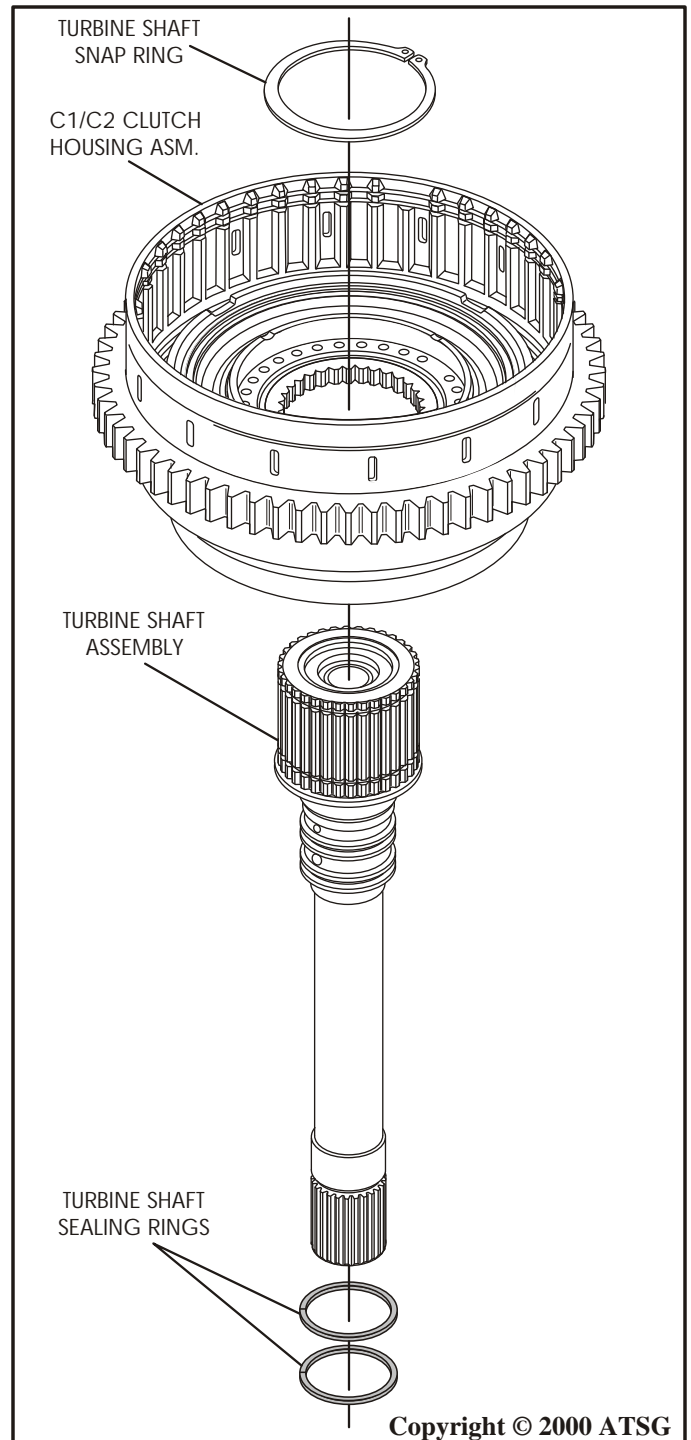

Figure 110
24. Install two new sealing rings onto turbine shaft as shown in Figure 110.
25. **Now** install the turbine shaft into the splines of the C1/C2 clutch housing and install the eyelet snap ring in bottom groove (See Figure 110).